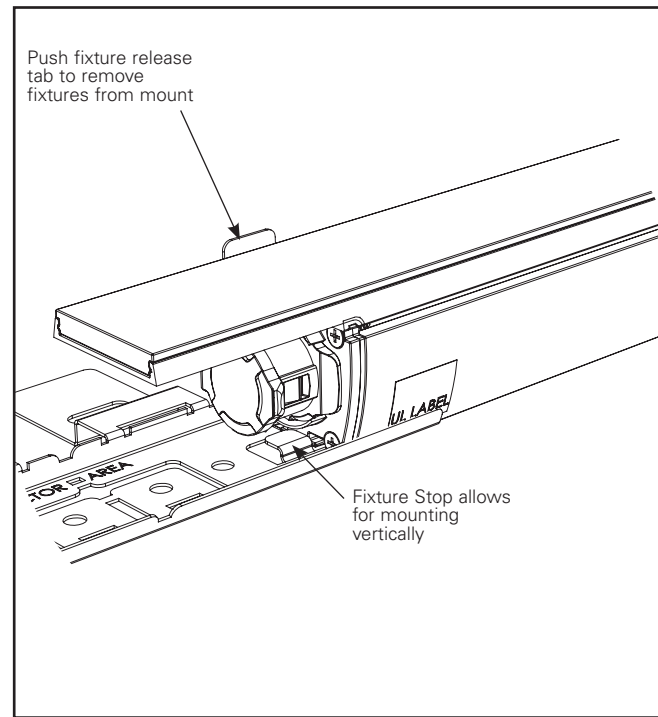

Figure 13.2
12. To remove fixtures from bracket, push fixture release tab (see Figure 13.2).